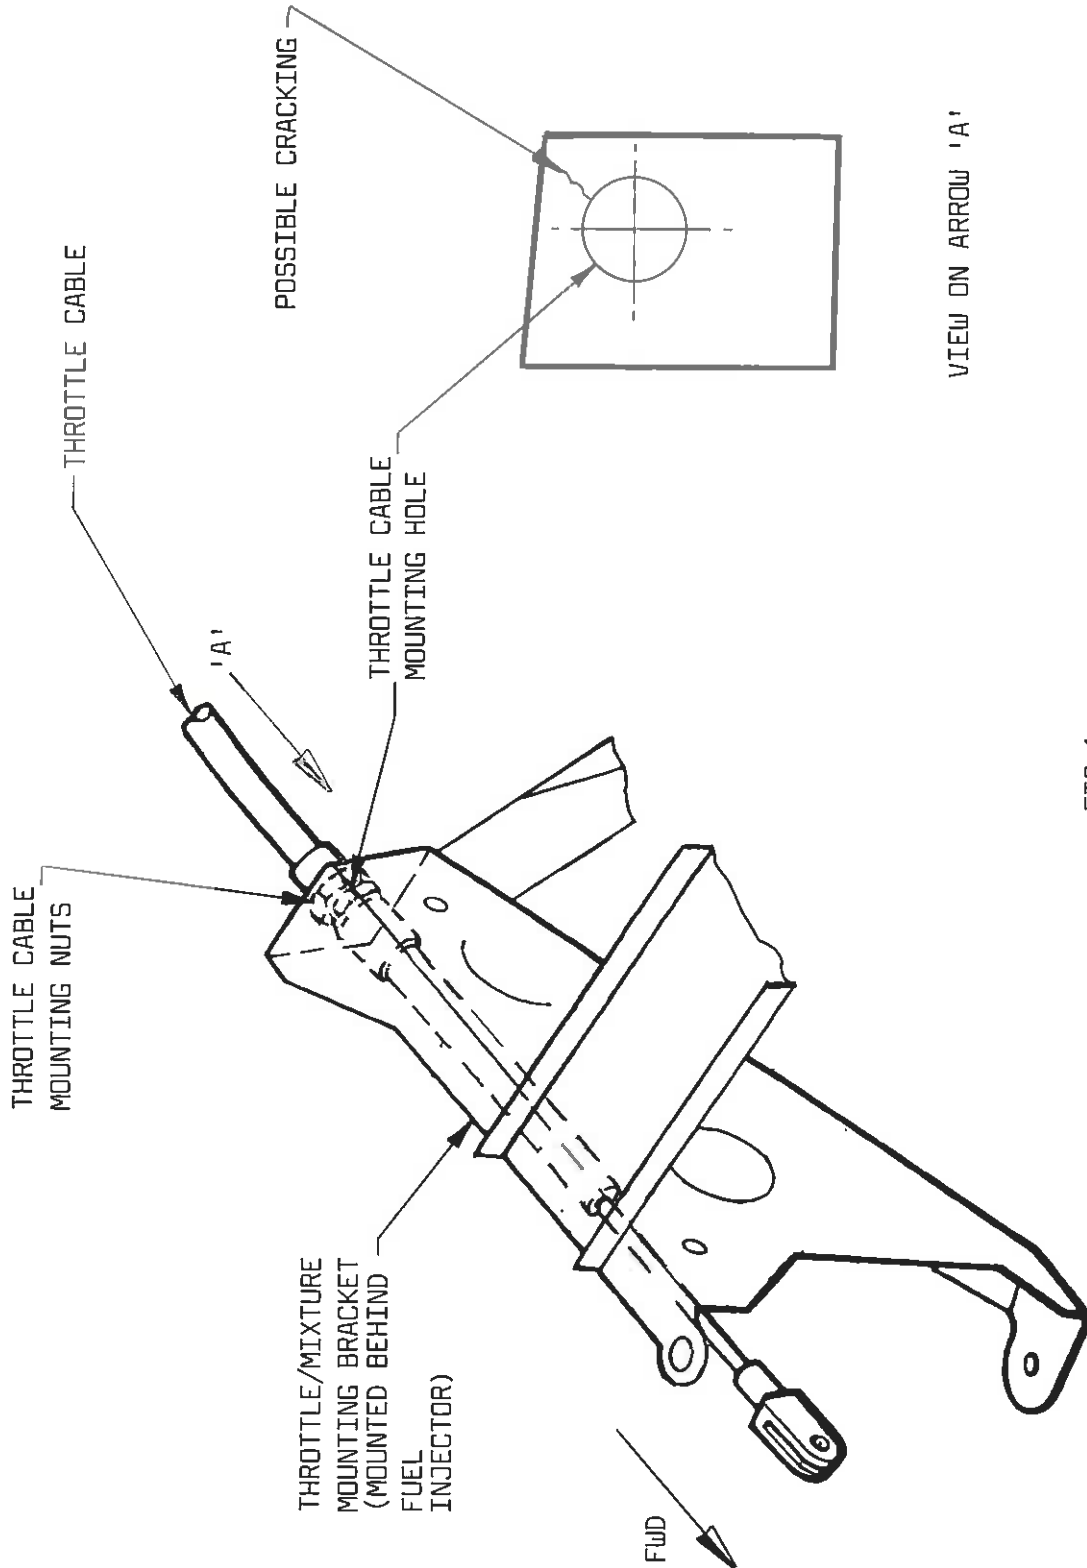

FIG 1
1. Disconnect throttle cable mounting nuts. Ref Fig. 1.